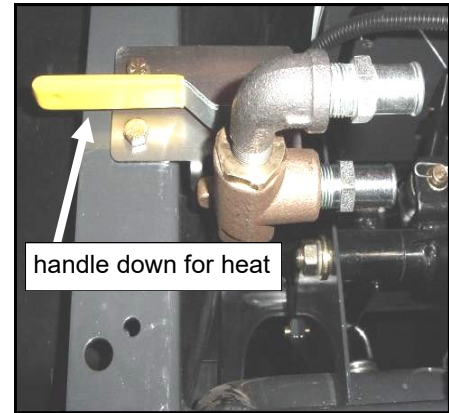

Fig. 8.1 (view from front of vehicle)
8.1 Refill cooling system. Start engine and check system for leaks. Run the engine at full throttle with the heater on, the diverter valve handle down as shown in fig. 8.1, and the radiator cap off. Allow engine to warm up until thermostat opens (the upper radiator hose will get hot). The heater and heater hoses should already be warm at this point. If one of the heater hoses is cooler than the other, then there is still air trapped in the heater. In this case, put the radiator cap back on and temporarily place clamp on left radiator hose to force coolant through the heater. Remove clamp once hoses reach the same temperature. Allow engine to cool, remove radiator cap and top off the radiator. Note: with the handle in the up position, the diverter valve quickly converts the heater into a summertime blower by preventing hot coolant from flowing to the heater core.